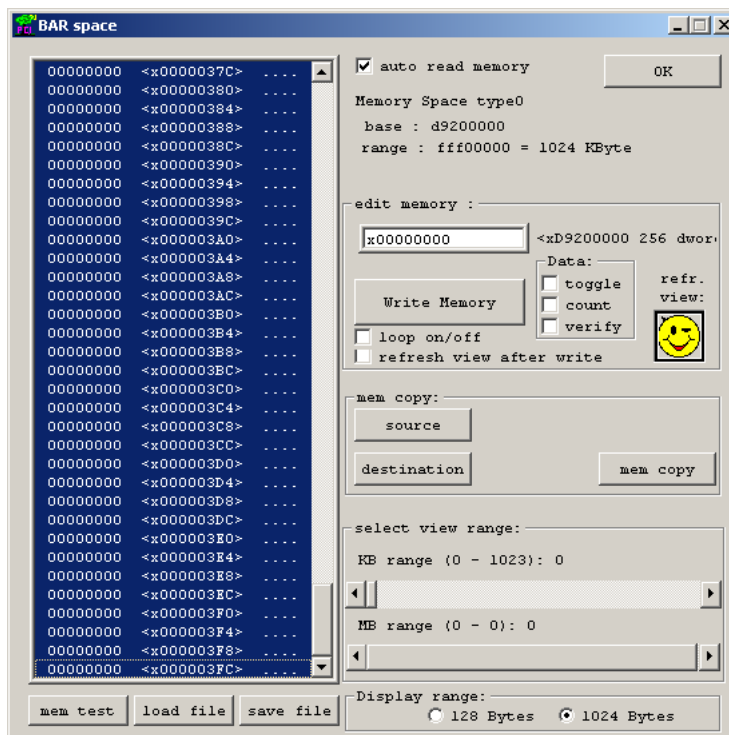

Figure 1-40: Select 1024 Bytes
22. Click on the first memory location by holding <Shift-End> keys. This will select 1024 bytes as shown in Figure 1-40.